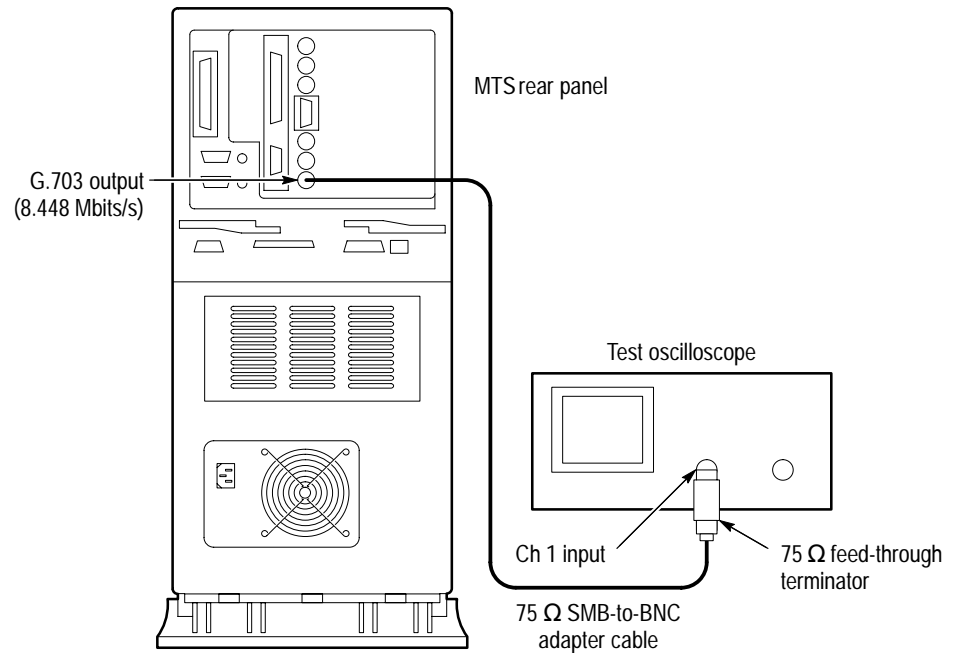

Figure 11: Initial test system connections for the functional check
1. Connect the equipment as shown in Figure 11.